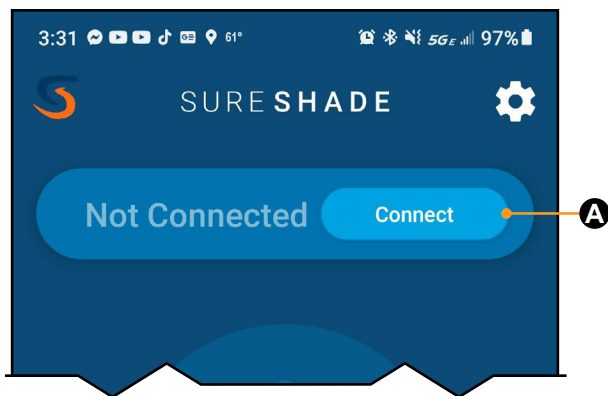

Fig.69
F. Tap the Back arrow (Fig.74B) to return to the Connect screen (Fig.69).